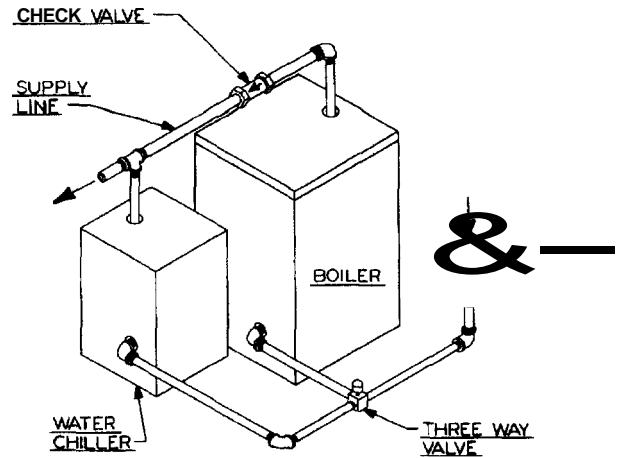

Figure 2: Parallel Hook-up with Water Chiller
7. If this boiler and distribution system is used in conjunction with a refrigeration system, pipe the chilled medium in parallel with the boiler and install the proper valve to prevent the chilled medium from entering the boiler. A drawing illustrating this hook-up is provided in Figure 2.